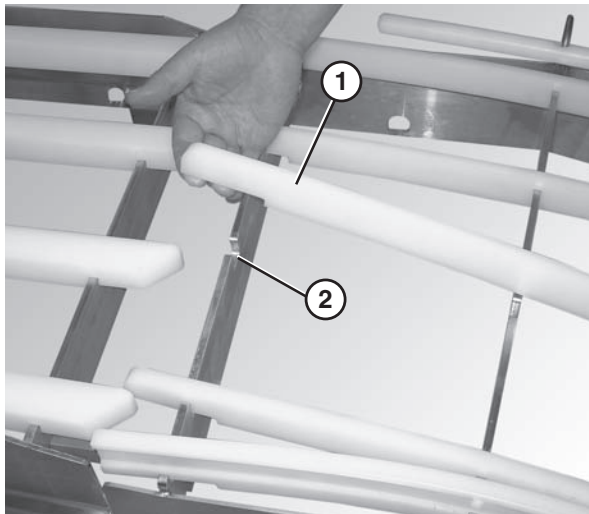

Figure 30
3. Insert the wear strips (**Figure 30, item 1**) into the appropriate slots in the frame (**Figure 30, item 2**), starting with the shortest wear strip on the inside of the curved section and working outward to the longest.